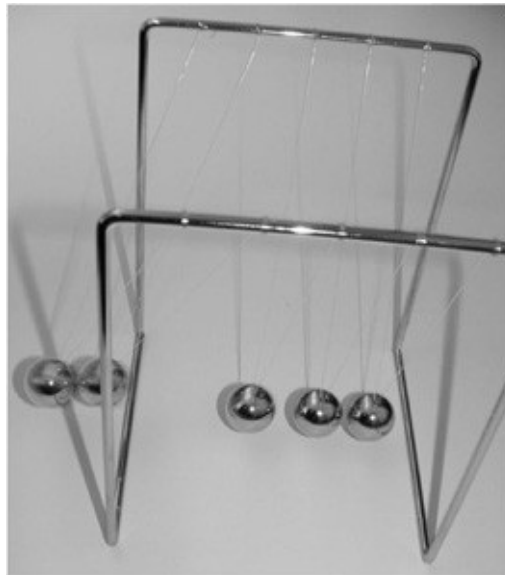

Figure 52-1 *Conservation of momentum and kinetic energy requires that two balls hitting the group always causes two balls to slide out.*
- optional—a Newton's cradle, as shown in Figure 52-1
A Newton's cradle, as shown in the previous Figure 52-1, is another good way to study elastic collisions. In a *Newton's cradle*, two balls never rebound when struck by a single ball and three balls never rebound when struck by two balls. This is the result of both conservation of linear momentum and conservation of energy.